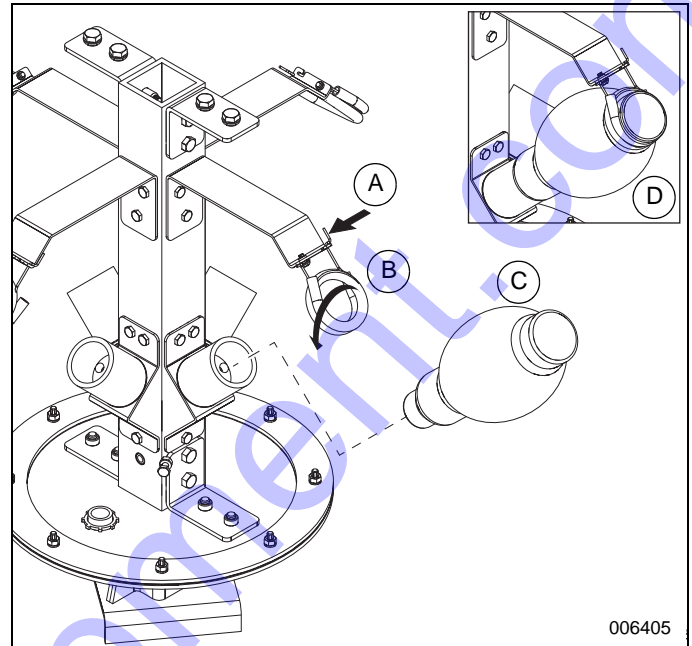

Figure 9. Bulb Installation
3. See Figure 9. Install bulbs, as follows.